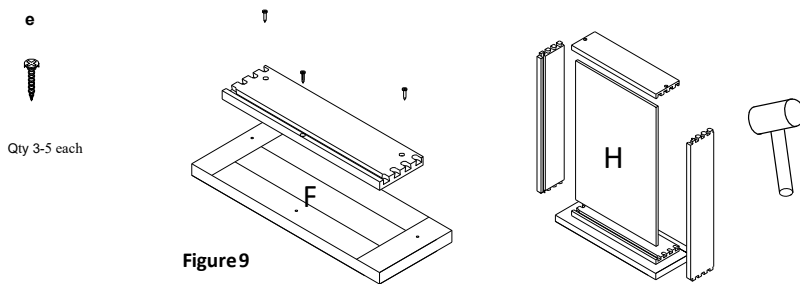

Figure 9
6. Drawer Assembly (Figure 9): First assemble the drawer front (F) with drawer box front (H) with screws (e). Then assemble the rest parts of drawer box (H) using your palm, or a rubber mallet if needed, to secure the dove tails into position. Repeat steps for remaining drawers.